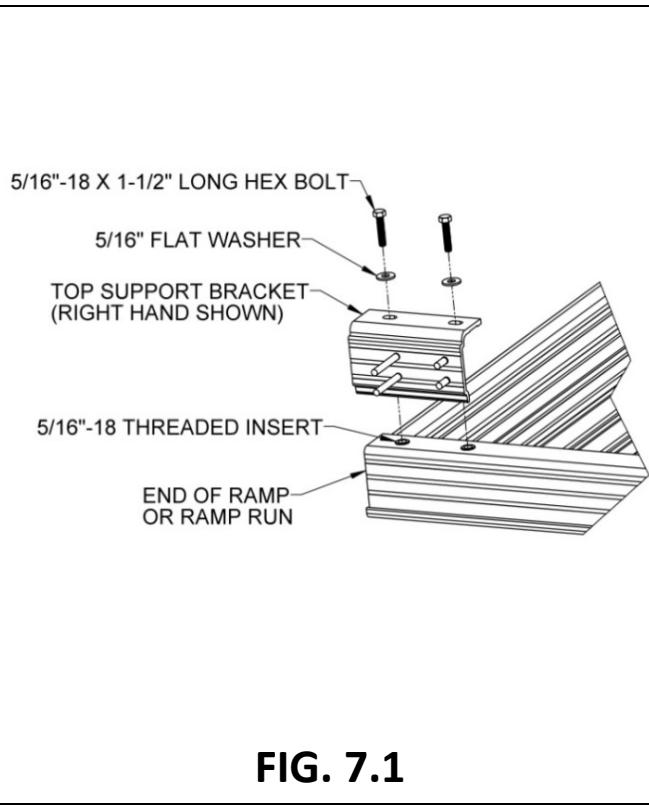

FIG. 7.1
- 7.1.1. Attach top support brackets with two 5/16"-18 x 1-1/2" hex bolts and two 5/16" flat washers (FIG. 7.1).